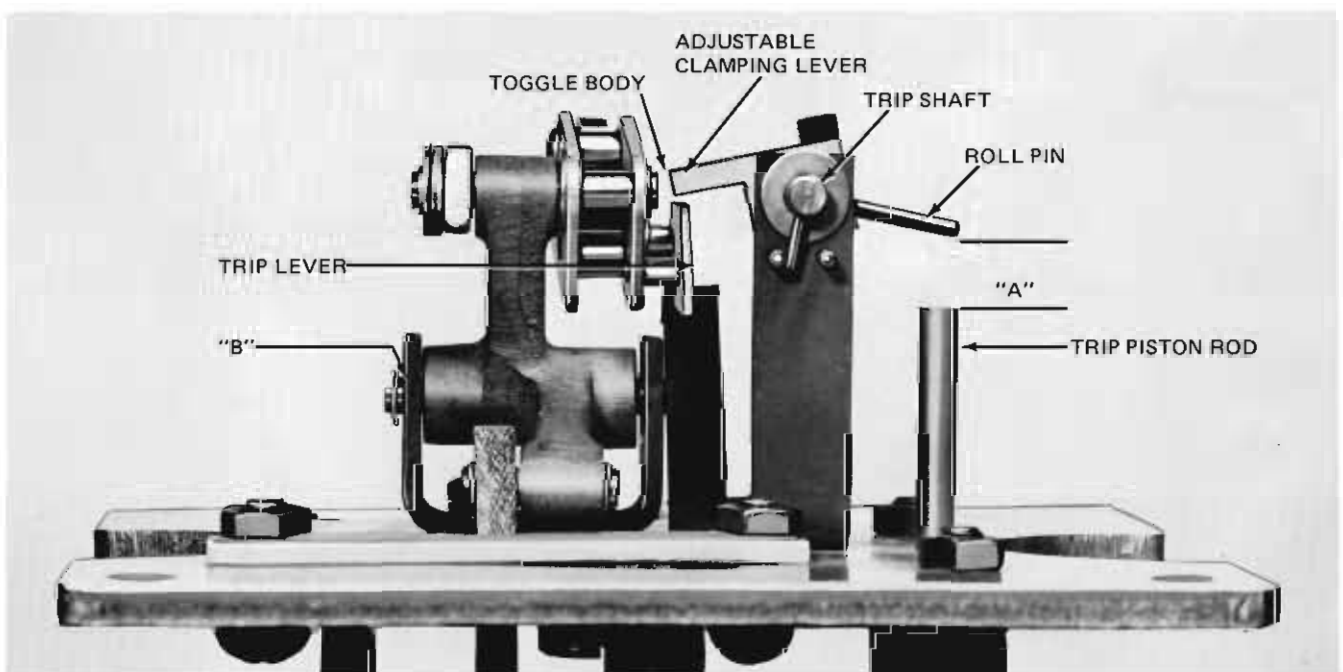

Figure 30
Adjustment of the head mechanism can be performed on an assembled but untanked sectionalizer. Figures 30 and 31 show a sectionalizer with the head casting removed but this is for clarity only.
1. Check to see that the trip shaft, Figure 30, moves freely within its limited range. When all three trip pistons are fully settled, the trip piston rod ends should clear the roll pins in the trip shaft by the following amounts:
Clearance (Dimension "A", Figure 30)	Fault Current Pulses Before Lockout
- B. Push down on any of the four long roll pins in the trip shaft and rotate the adjustable clamping lever until it clears the trip lever by about 1/32 inch. Tighten the set screw. See Figure 30.